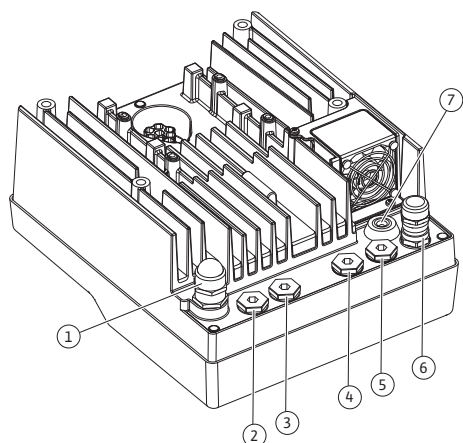

Fig. 19: Threaded cable glands/cable bushings
4. Guide the connection cable through the M25 threaded cable gland (Fig. 19, Item 1). Threaded cable gland with the specified torques.